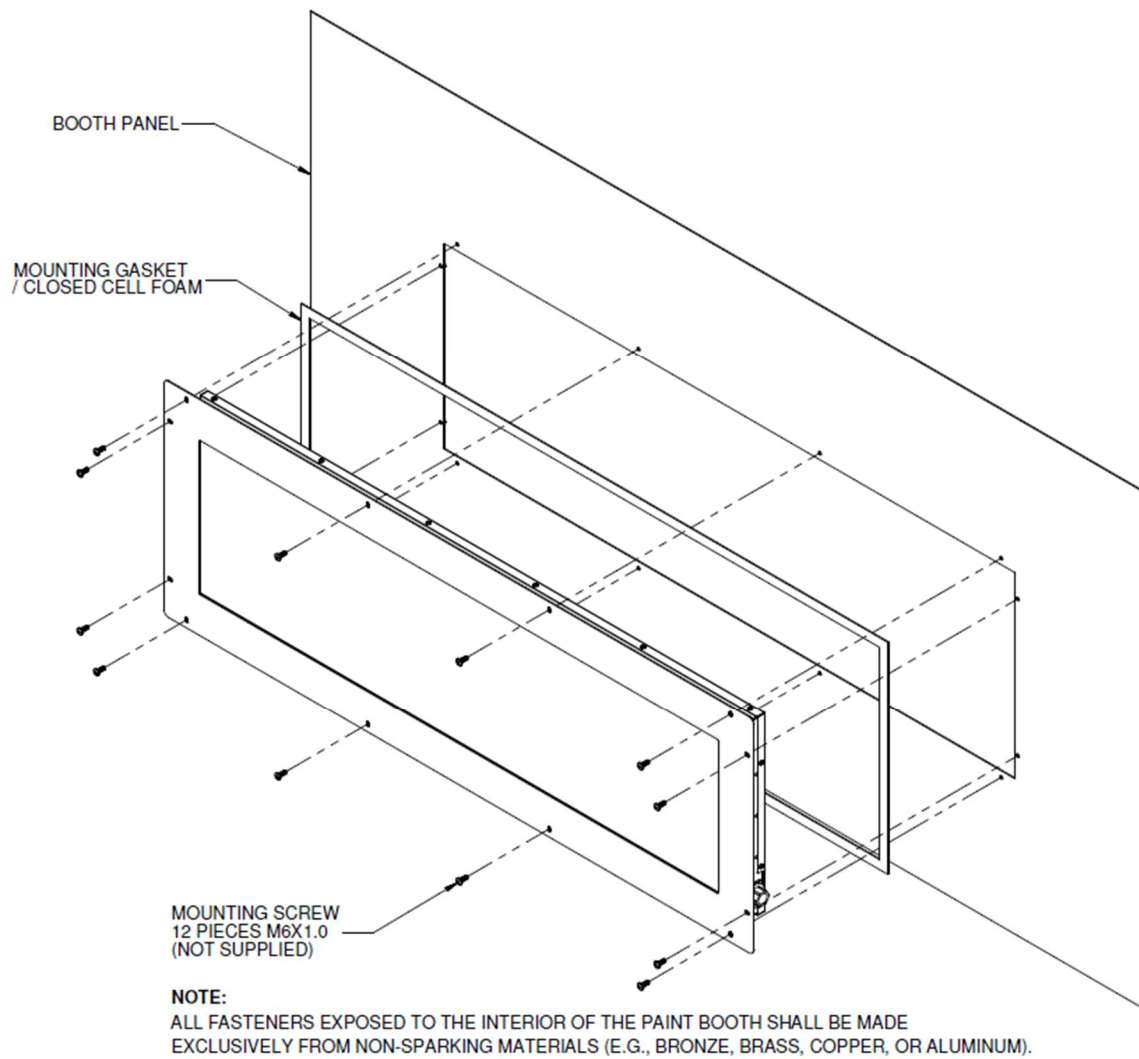

Figure 3. Installation of fixture ULF839VW to booth panel
6. Install mounting screws (not supplied) and secure light fixture tightly to booth panel. Refer to Figure 3.